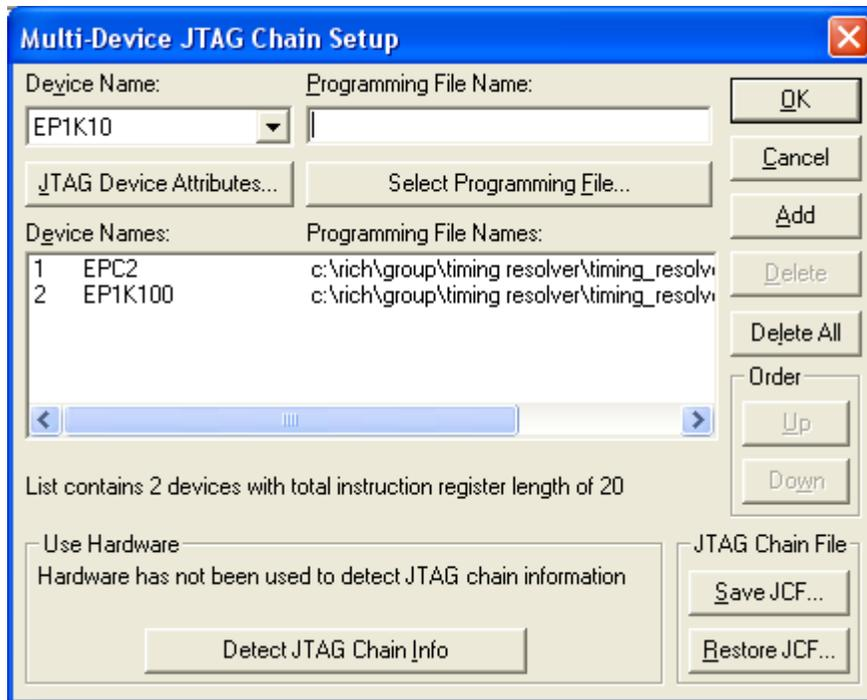

Figure 3
- 6) Select menu item **JTAG** then **Multi-Device JTAG Chain Setup**. A window as in **Figure 3** should pop up.
- 10) Click on the **Detect JTAG Chain Info** button. Then click **OK** in the dialog box that pops up. When complete, the window should appear as in **Figure 3**.